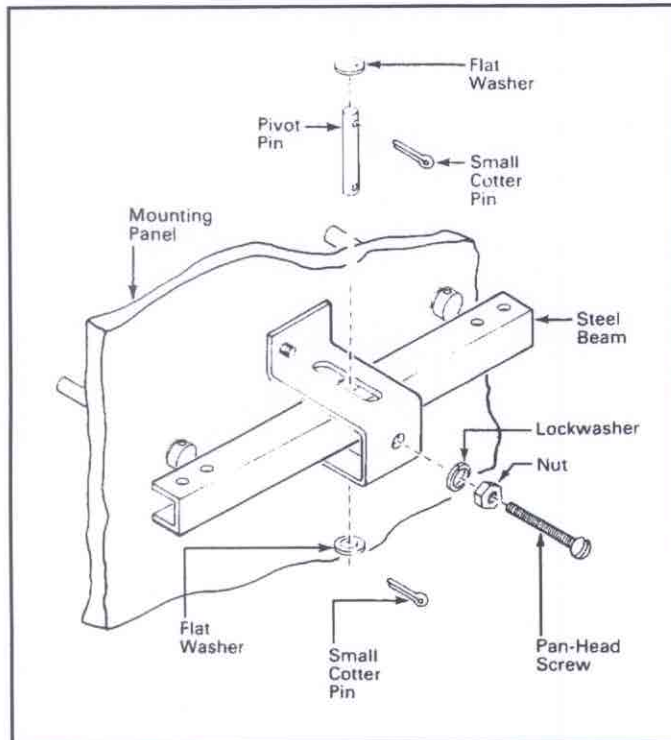

Fig. 2-6 Assembly of Steel Beam to Mounting Bracket
- 2-7. Position steel beam inside legs of mounting bracket. Install pivot pin through bracket and steel beam (Fig 2-6). Secure pivot pin in position using two small cotter pins and flat washers supplied.